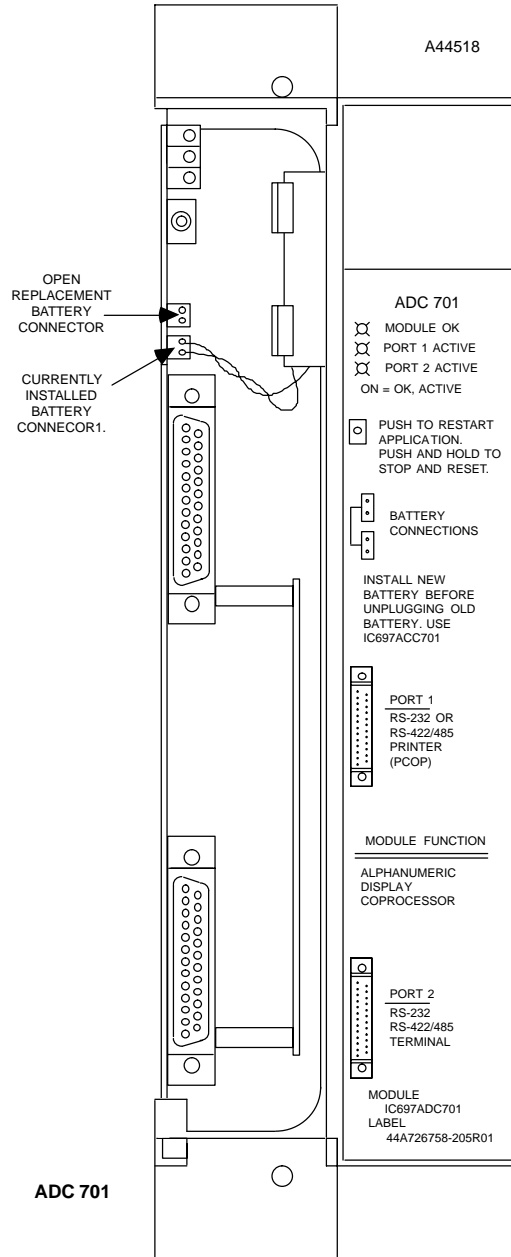

Figure 2. Alphanumeric Display Coprocessor Module - User Details
- Connect the battery to either of the battery connectors on the module (see figure 2).